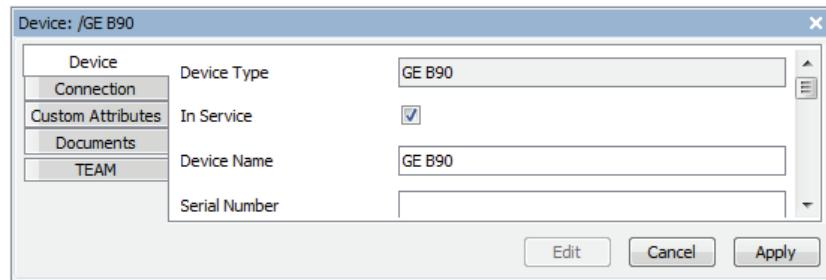

Figure 55 Device in Service
- Step 4. Select the **Device** tab, press **Edit**, and select the **In Service** check box, as shown in *Figure 55*.